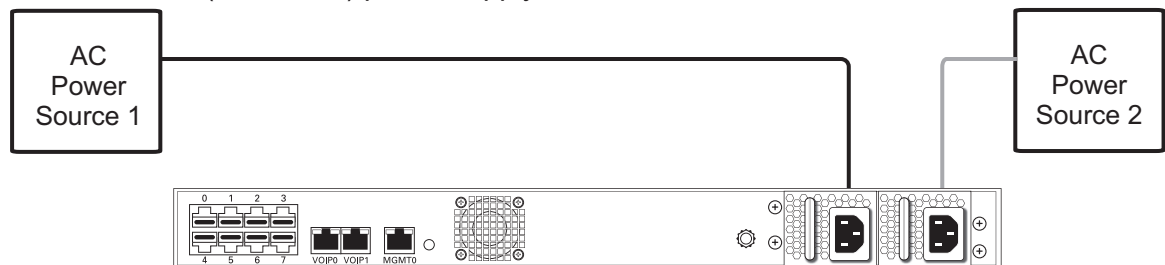

Figure 2.5 AC Power Connection
1. Connect an AC power cable to each AC connector of the TMG800 and an AC supply. See figure 2.5 on page 19.